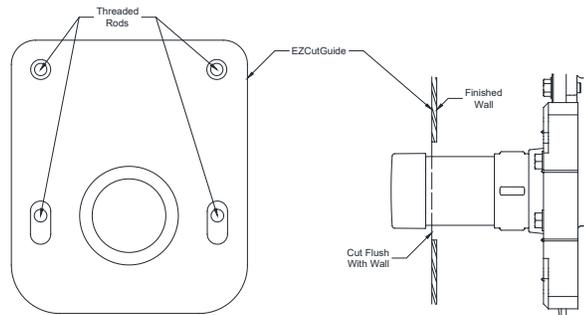
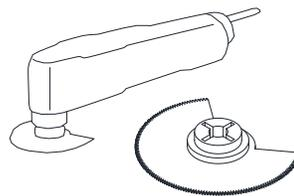

Figure 11b
Figure 11c
- b. EZ-Set Coupling: Remove the protective sleeve. Hang the EZCUTGUIDE (purchased separately) (see Figure 11b). Using an oscillating multi-tool with flush cut blade (see Figure 11c), remove the test cap and excess coupling length. Deburr sharp edges.